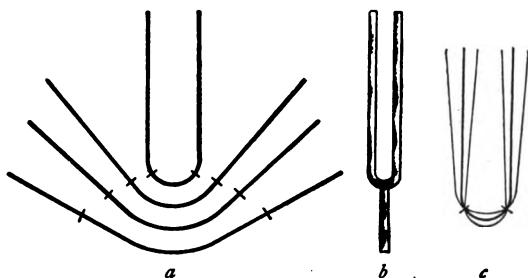

FIG. 148.—TUNING FORK
**180. Tuning Fork.** If a rod such as described in the preceding paragraph is gradually bent as indicated in Figure 148*a*,
the nodes come nearer together. If we use a bar of steel about ten inches long, bent so that the sides are parallel, and fasten a handle to the middle part (Fig. 148*b*), a tuning fork results. When the ends or *tines* of such a fork are set in vibration, the middle point rises and falls (Fig. 148*c*).